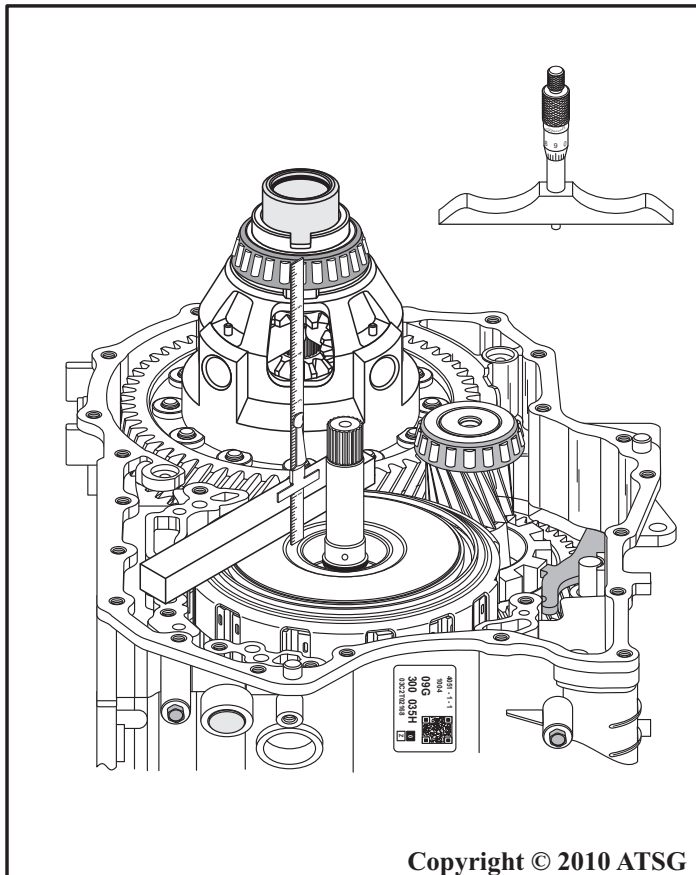

Figure 182
1. Measure the distance from case pump surface to the washer surface on the K3 clutch housing, as shown in Figure 182, using a straight edge and ruler, or a depth micrometer.